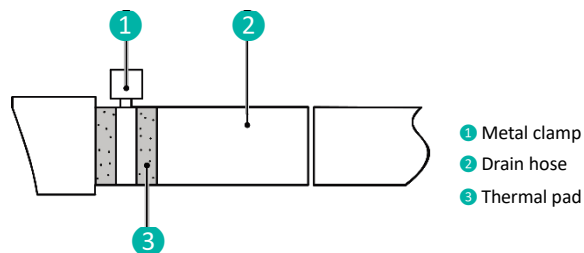

Fig. 4.3.2
- 1 Insert the drain hose into the drain hole and secure it with tape, as shown in Fig. 4.3.2. The model with a water pump comes with a drain hose, while for other models, you must purchase the drain hose yourself.